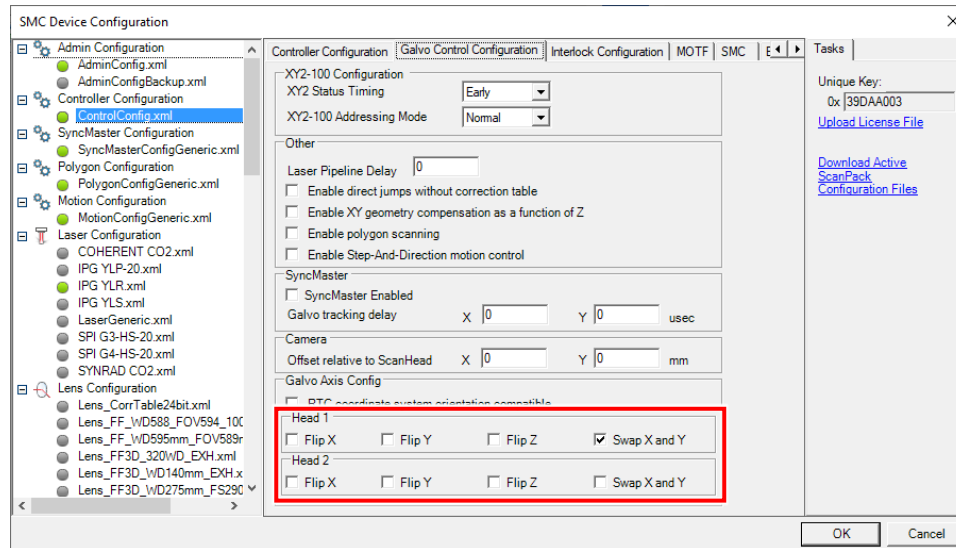

Figure 19: Editing the SMC Device Configuration
3. Select the *Controller Configuration* tab and within the *Galvo Axis Config* groups *Head 1* and *Head 2*, make sure the settings are as shown in Figure 19 on page 61.